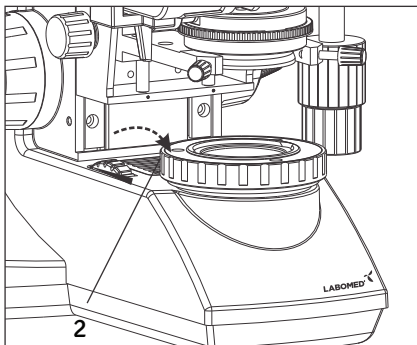

Fig. 14
2. Rotating the light intensity adjustment knob (Fig. 14) in the direction of the arrow increases brightness and rotating knob in the opposite direction decreases brightness. The intensity bar next the knob indicates the direction of intensity level.